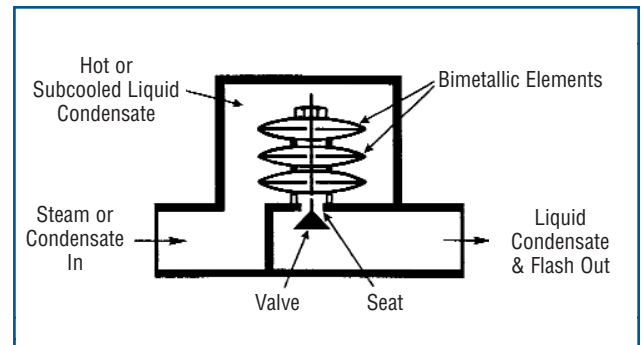

**Figure 4. Thermostatic Steam Trap with a Bellows Element**
**Bellows Traps.** Bellows traps include a valve element that expands and contracts in response to temperature changes. Often a volatile chemical such as alcohol or water is inside the element. Evaporation provides the necessary force to change the position of the valve. At start up, the bellows trap is open due to the relative cold condition. This operating condition allows air to escape and provides maximum condensate removal when the load is the highest. Bellows traps can fail either open or closed. The configuration of a bellows steam trap is shown in Figure 4.